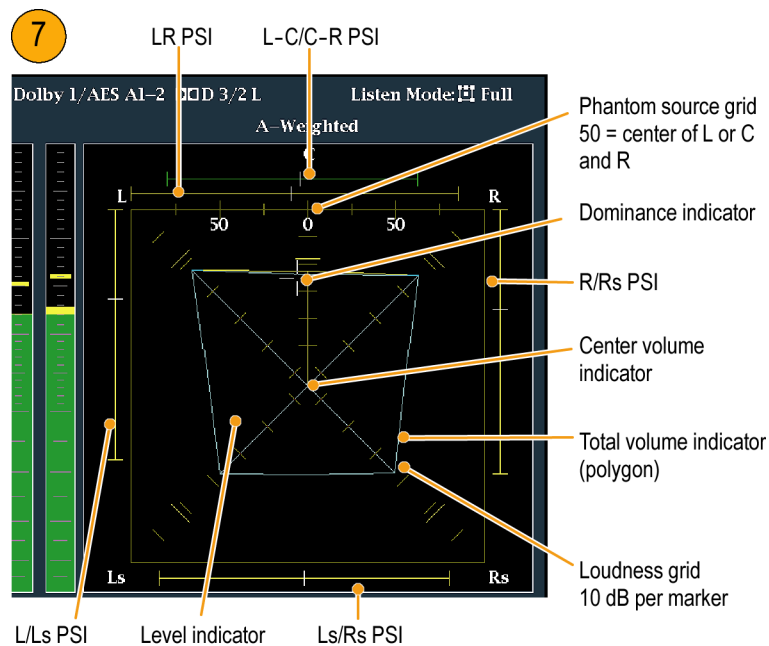

Figure 71: Surround sound indicators
7. Use the surround display to monitor relative loudness of the individual elements rendered in a surround-sound listening environment. Check the surround sound display for performance parameters and indicators. (See Figure 71.)